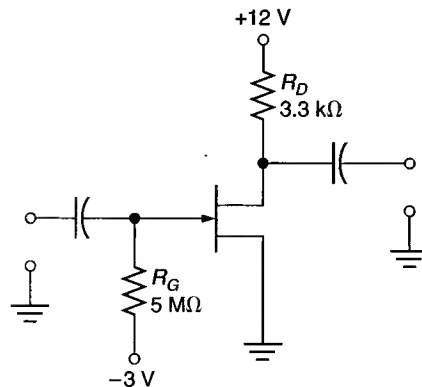

FIGURE 12.54
17. The 2N3437 (described in Problem 11) is used in the circuit shown in Figure 12.54. Determine the range of I_D values for the circuit. (*Hint:* See the margin note under *A Practical Consideration* on page 471 of the text.)